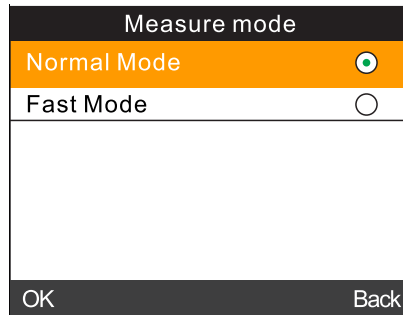

Figure 53 SCI/SCE Setting Interface
l) Measurement mode Select "Measurement Mode" in the "Function Settings" to enter the interface shown in Figure 53, where you can choose between normal mode or fast mode for measurement